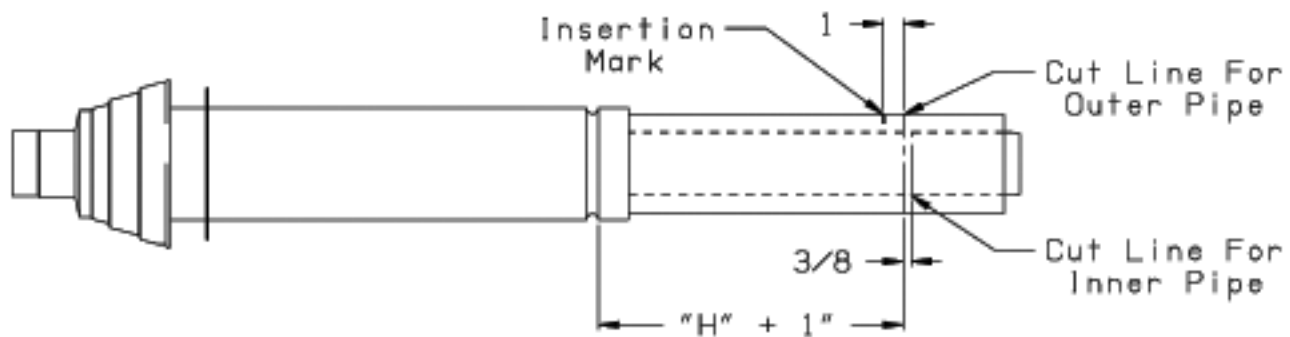

FIGURE 7.35b: CUTTING VERTICAL TERMINAL
- Add 1" to distance "H". Carefully mark this length on the pipe as shown in Figure 7.35b.
- Place a mark on the aluminum inner pipe 3/8" beyond the end of the outer pipe (Figure 7.35b). Use a fine tooth hacksaw to cut the aluminum pipe and be careful to cut the pipe square. De-burr the cut edge of the aluminum pipe with a file or emery cloth.
- Make a mark on the terminal section 1" from the cut end of the outer pipe as shown in Figure 7.35b.